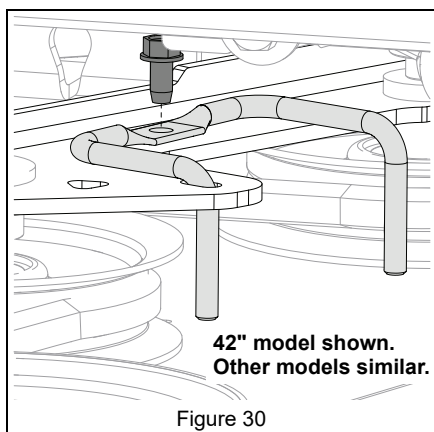

Figure 30
5. Remove hardware retaining belt finger and remove belt finger from belt idler. See Figure 30.
2. Reinstall belt finger with original hardware. See Figure 30.